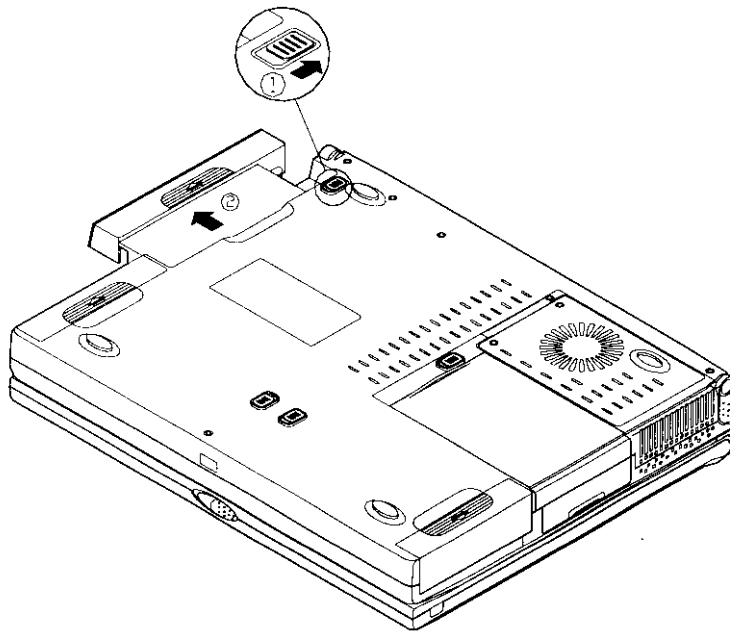

Figure 2-17
3. Locate the CD-ROM latch (Figure 2-17).